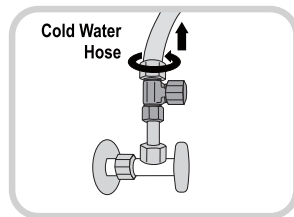

Fig. 2
2. Detach the hose connected from the cold water tap to the sink (Fig. 2).